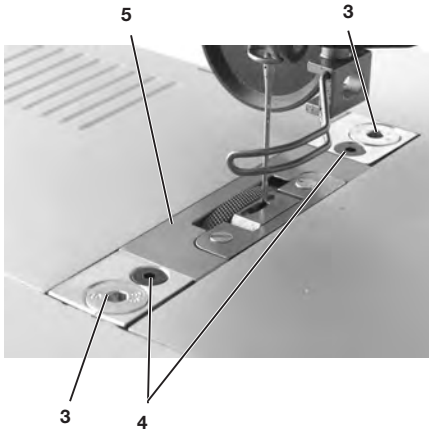

Fig. 1
- Loosen screws (3) and (4). Move the throat plate so that the rule 2 is met (**A**) = **0.1 mm** according to **fig. 1**. Tighten the screws.